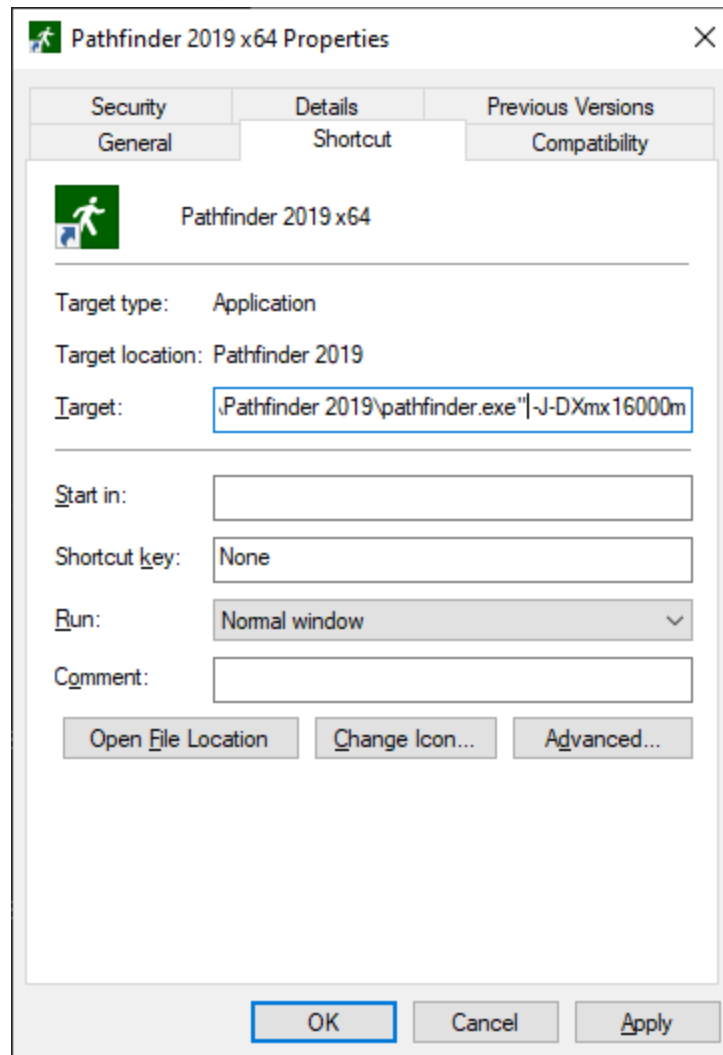

Figure 161. Example Shortcut Dialog
4. At the end of the **Target** field, type a space on the keyboard and then `-J-DXmx16000m`. The shortcut dialog will look similar to Figure 161.